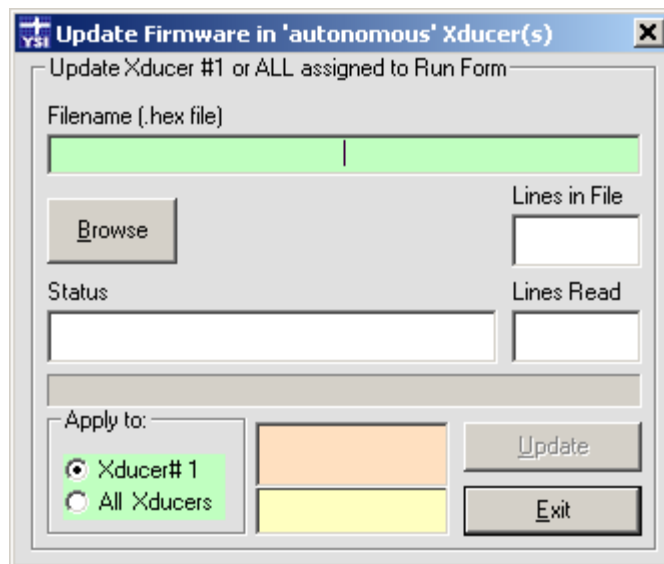

Figure 4.14
- 4) From the menu bar select **Configure** and then **Update Firmware**. The Update Firmware window will open (figure 4.14). Click the **Browse** button to locate the new firmware file to be downloaded to the Level Scout. To update all transducers listed on the Run window, ensure they have all been unlocked as described above, then click the **All Xducers** option in the Apply to frame.